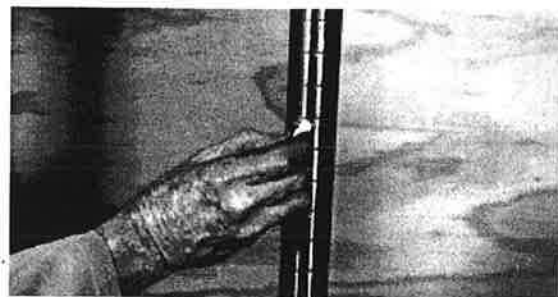

Figure 19. Mark Body Tube
- E. The sum of these measurements should be the body tube reading when drill contacts the pipe. Mark this measurement on the body tube. See Figure 19.